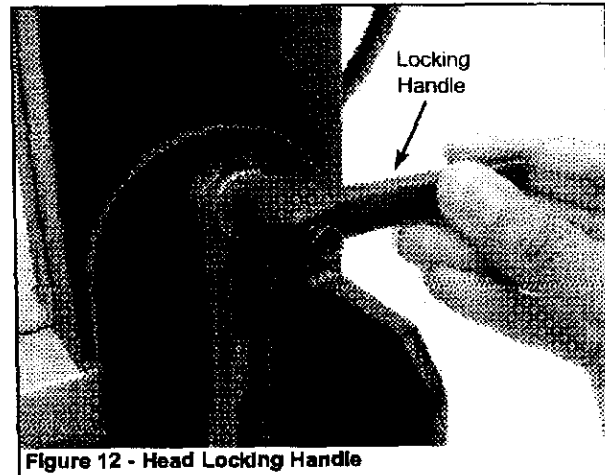

Figure 12 - Head Locking Handle
- Unlock head by loosening locking handle located on the backside of the unit (see Figure 12).
- Lock head in position by tightening locking handle (see Figure 12).